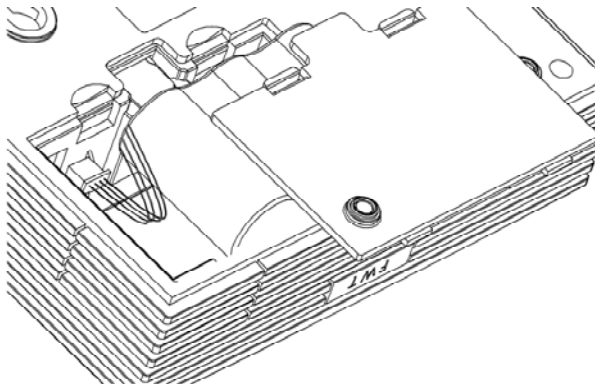

Figure 4-1 Removing or installing the spare battery of ETS1000 Series FWT
2. Open the cover of the spare battery as shown in Figure 4-1.